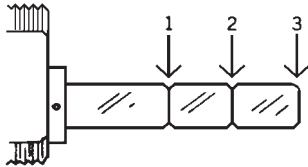

Figure 18.20 Tailpiece break points. (Simplex Access Controls Corp.)
- With two pairs of pliers, break the tailpiece of the key cylinder at the proper location as indicated (Fig. 18.20): (1) for the Simplex 100 or 200 series locks when the riser plate is not used, (2) for 100 series when either 1/4- or 3/8-inch side of the riser plate is used, or with the 200 series locks when 1/4-inch side of the riser plate is used, (3) for 200 series locks with 3/8-inch side of riser plate, use full length of tailpiece.